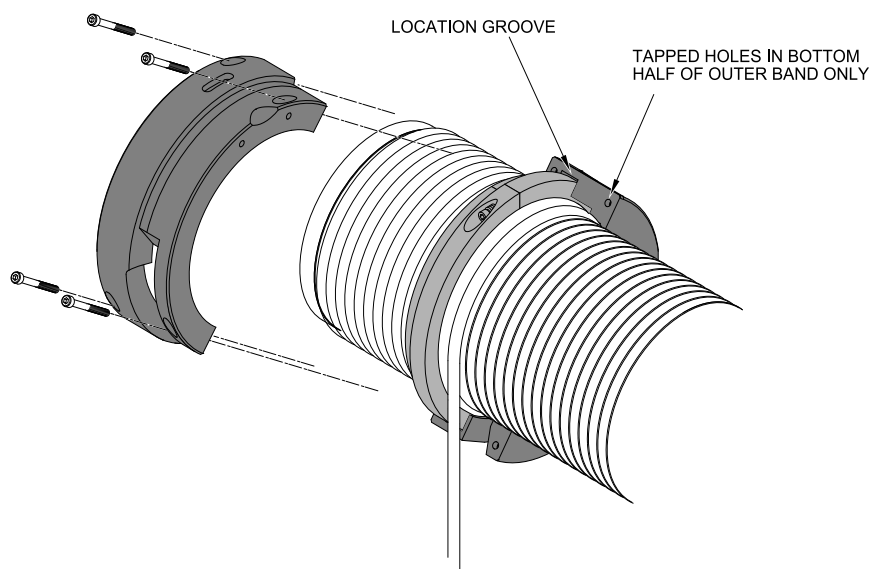

Figure 61 – Fitting Rope Guide Outer Band
- Fit the bottom half of the outer band (tapped joint holes) over the inner band and rotate until it is on the underside of the barrel ensuring that the slot collects the rope which leaves the barrel (see Figure 61).